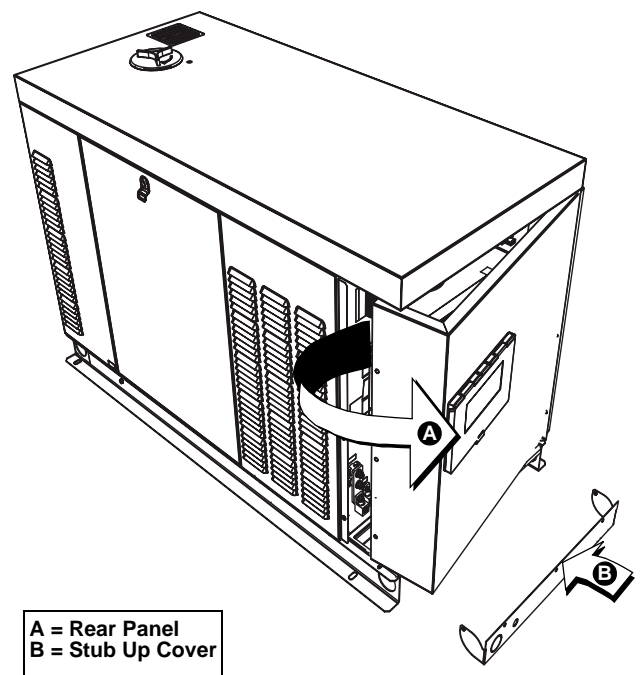

Figure 6-1. Remove Rear Panel and Stub Up Cover
1. See Figure 6-1. Remove six screws with nylon washers to release rear panel from enclosure. For best results, rotate left side of panel outward away from enclosure before disengaging the right side.